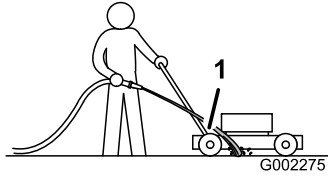

Figure 42
3. Hold the running garden hose at handle level and direct the water to flow on the ground just in front of the right rear tire (Figure 42).